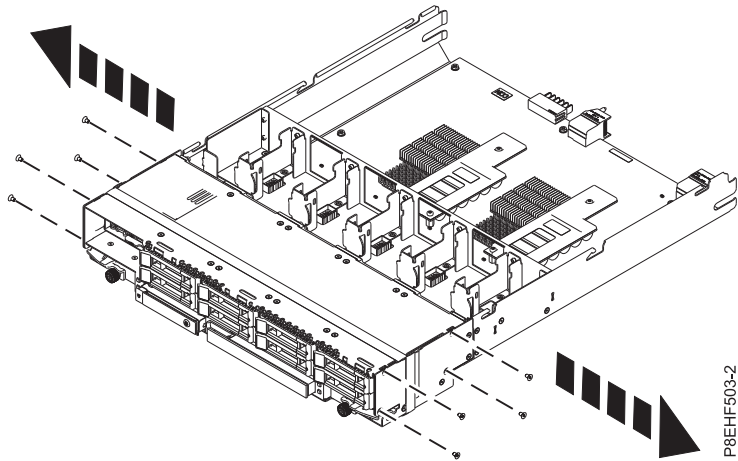

Figure 9. Removing screws from the RAID assembly
9. Remove four screws from each side of the RAID assembly by using a T10 Torx screwdriver. See Figure 9 on page 9